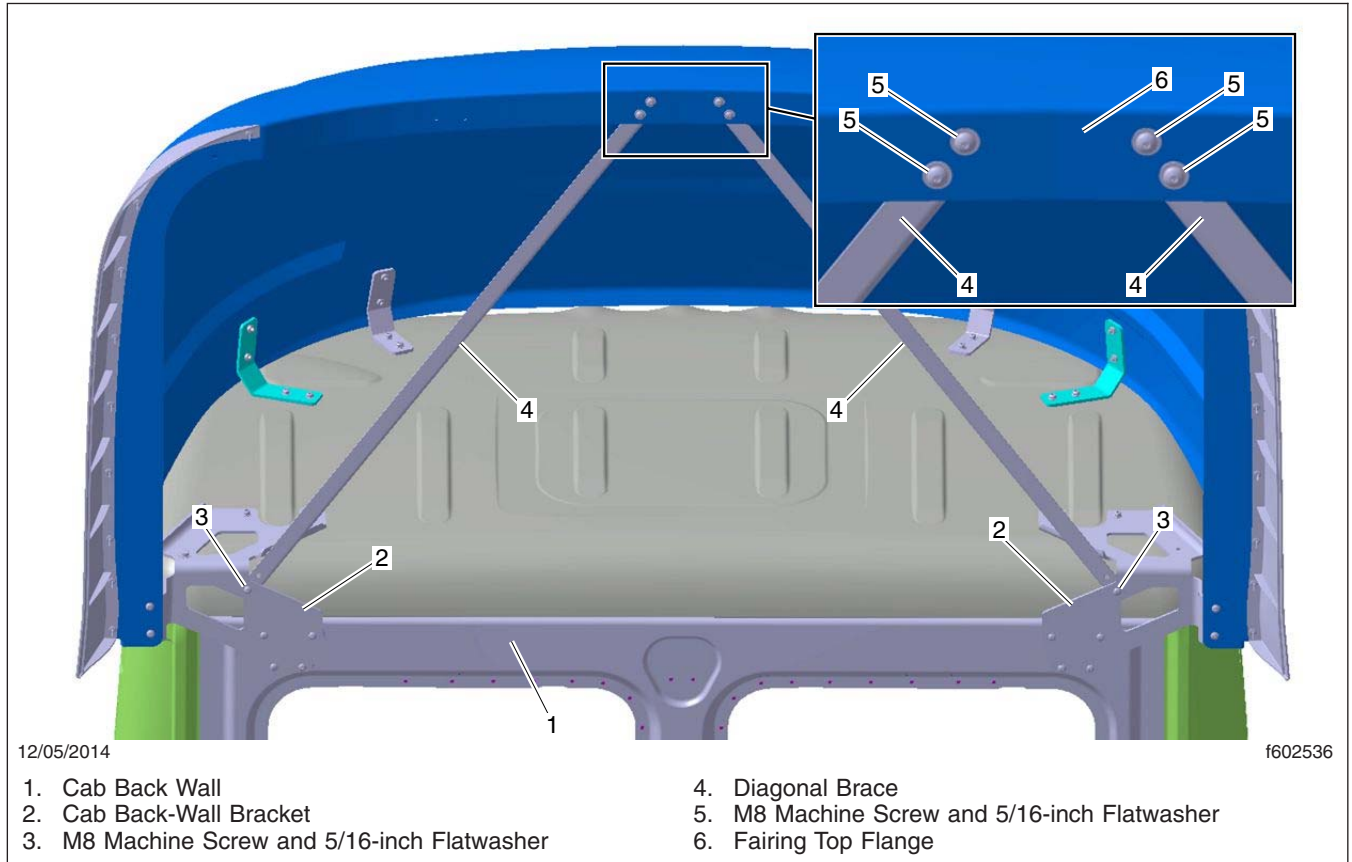

Fig. 3, Double-Diagonal Brace Installation
5. Attach the top end of one of the braces to the top flange of the fairing, then using the brace as a template, mark and drill two 3/8-inch (10-mm) holes in the flange. Repeat for the other brace. See **Fig. 3**.